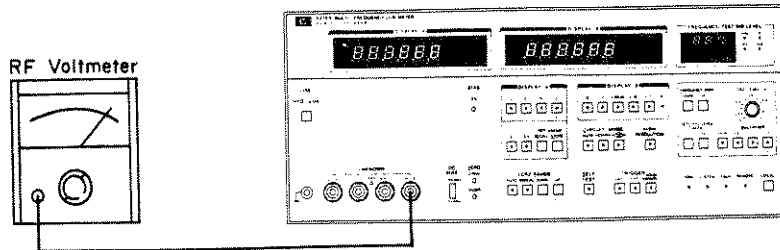

Figure 4-2. Test Signal Level Variable Range Test Setup.
1. Connect BNC to BNC cable to 4274A UNKNOWN H_{CUR} terminal and to RF voltmeter input as shown in Figure 4-2.